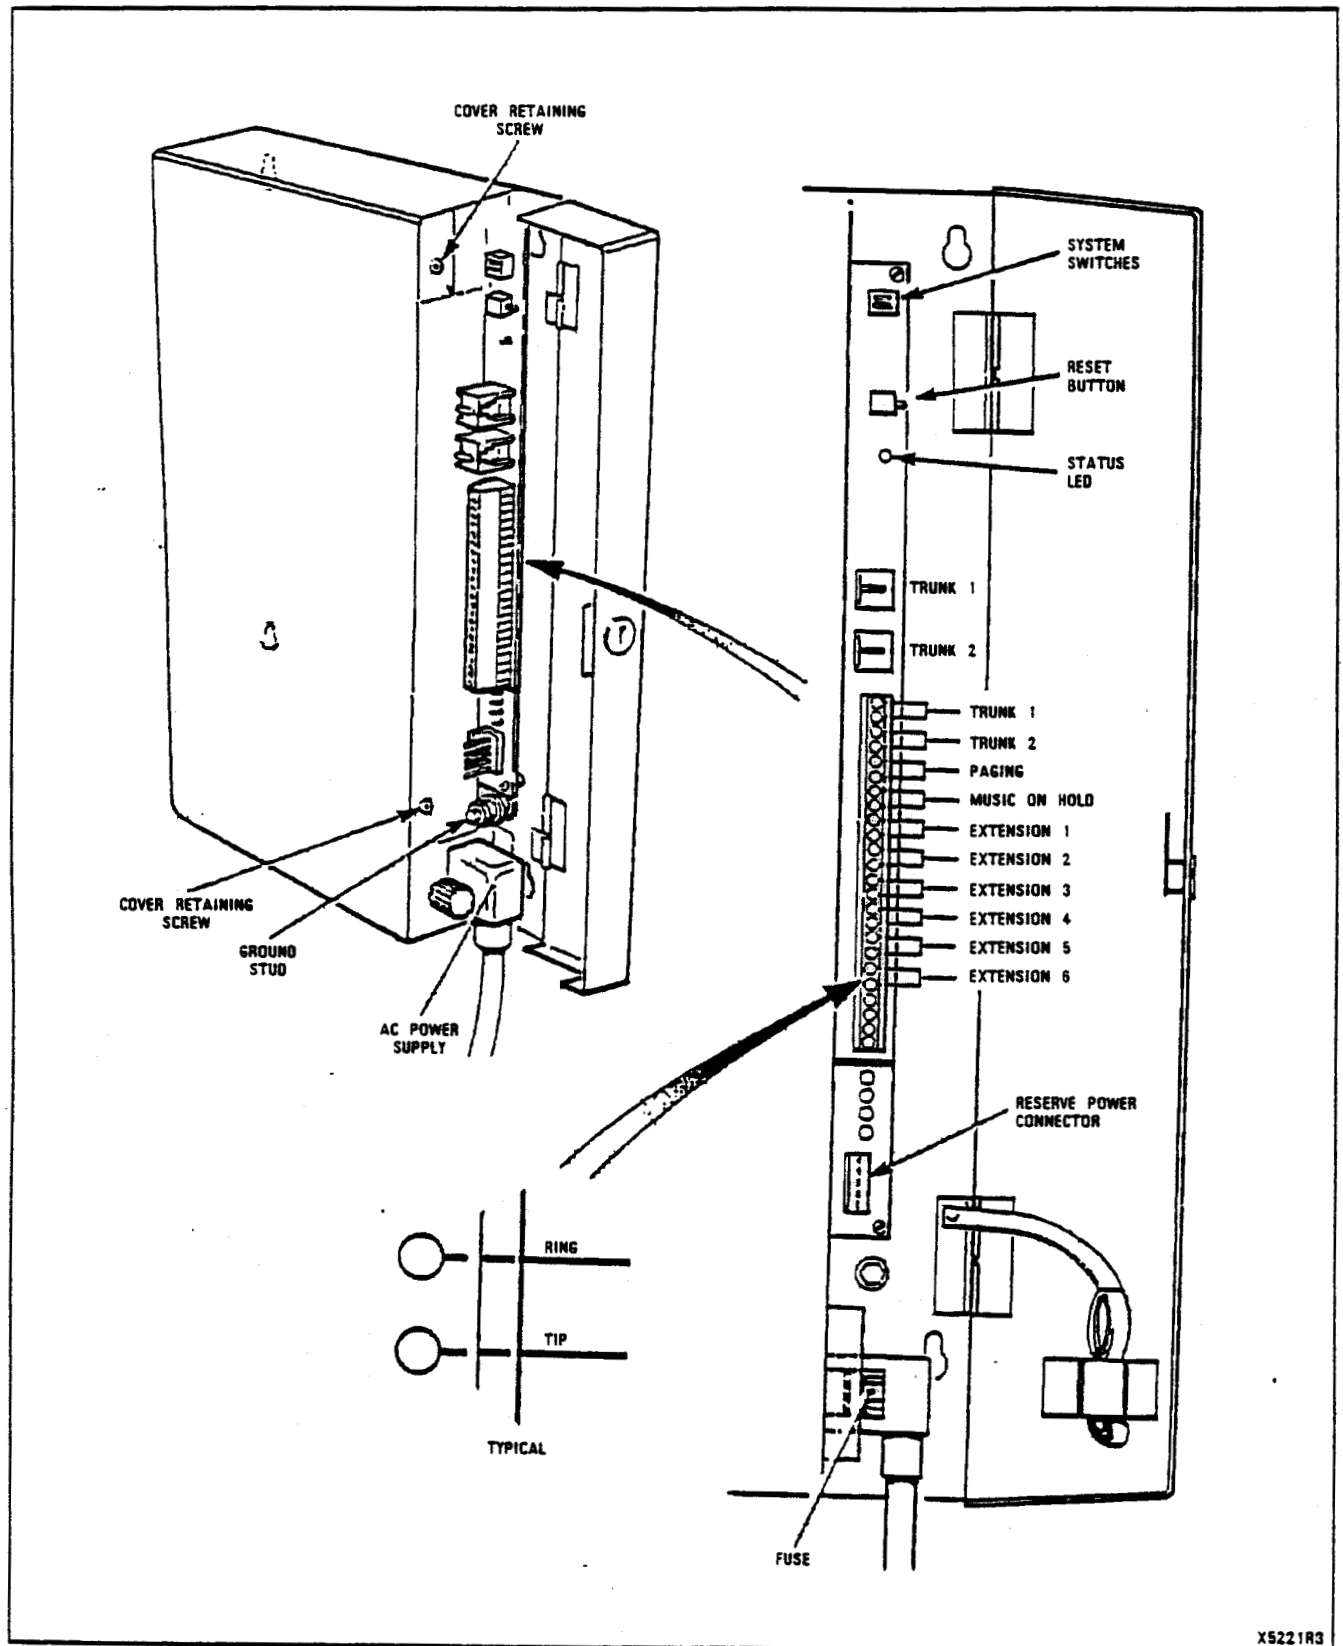
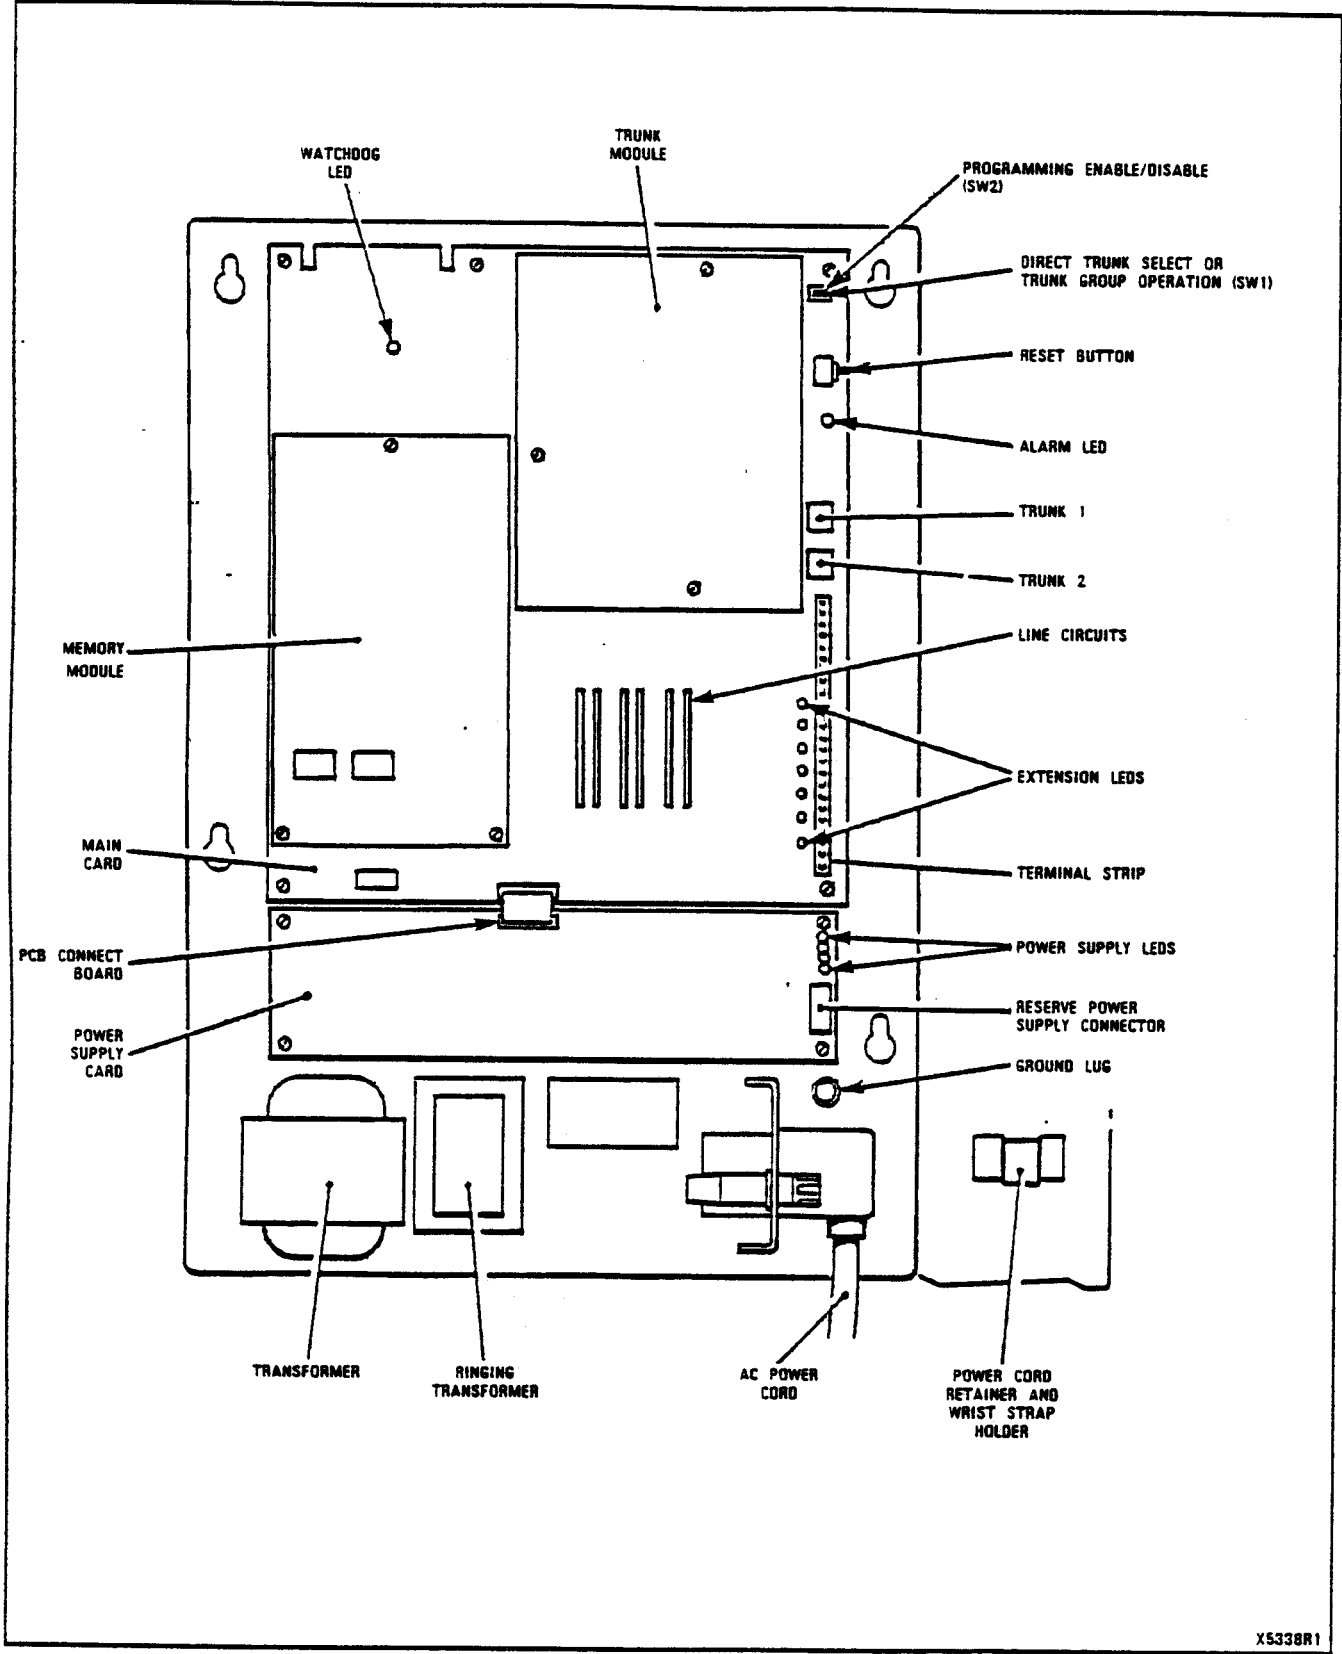

Fig. 2-1 SX-5 Equipment Cabinet
Fig. 2-2 SX-5 Equipment Layout
2.02 The SX-5 consists of a single cabinet (see Fig. 2-1), holding the switching circuitry and power supply. The Main Card, which contains the switching circuitry, is accessible at two levels. The first level of entry allows access to the terminal strip, LED's, and system switches. The second level of entry allows the replacement of modules by a qualified technician. An equipment layout is shown in Fig. 2-2.